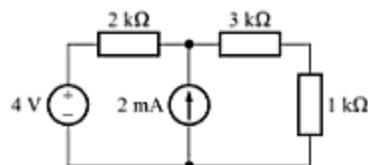

Fig. A-78
- A-37. Find Thevenin's and Norton's equivalents for the network faced by  $1\text{-k}\Omega$  resistor of Fig. A-78 (i.e., treating  $1\text{-k}\Omega$  resistor as load).